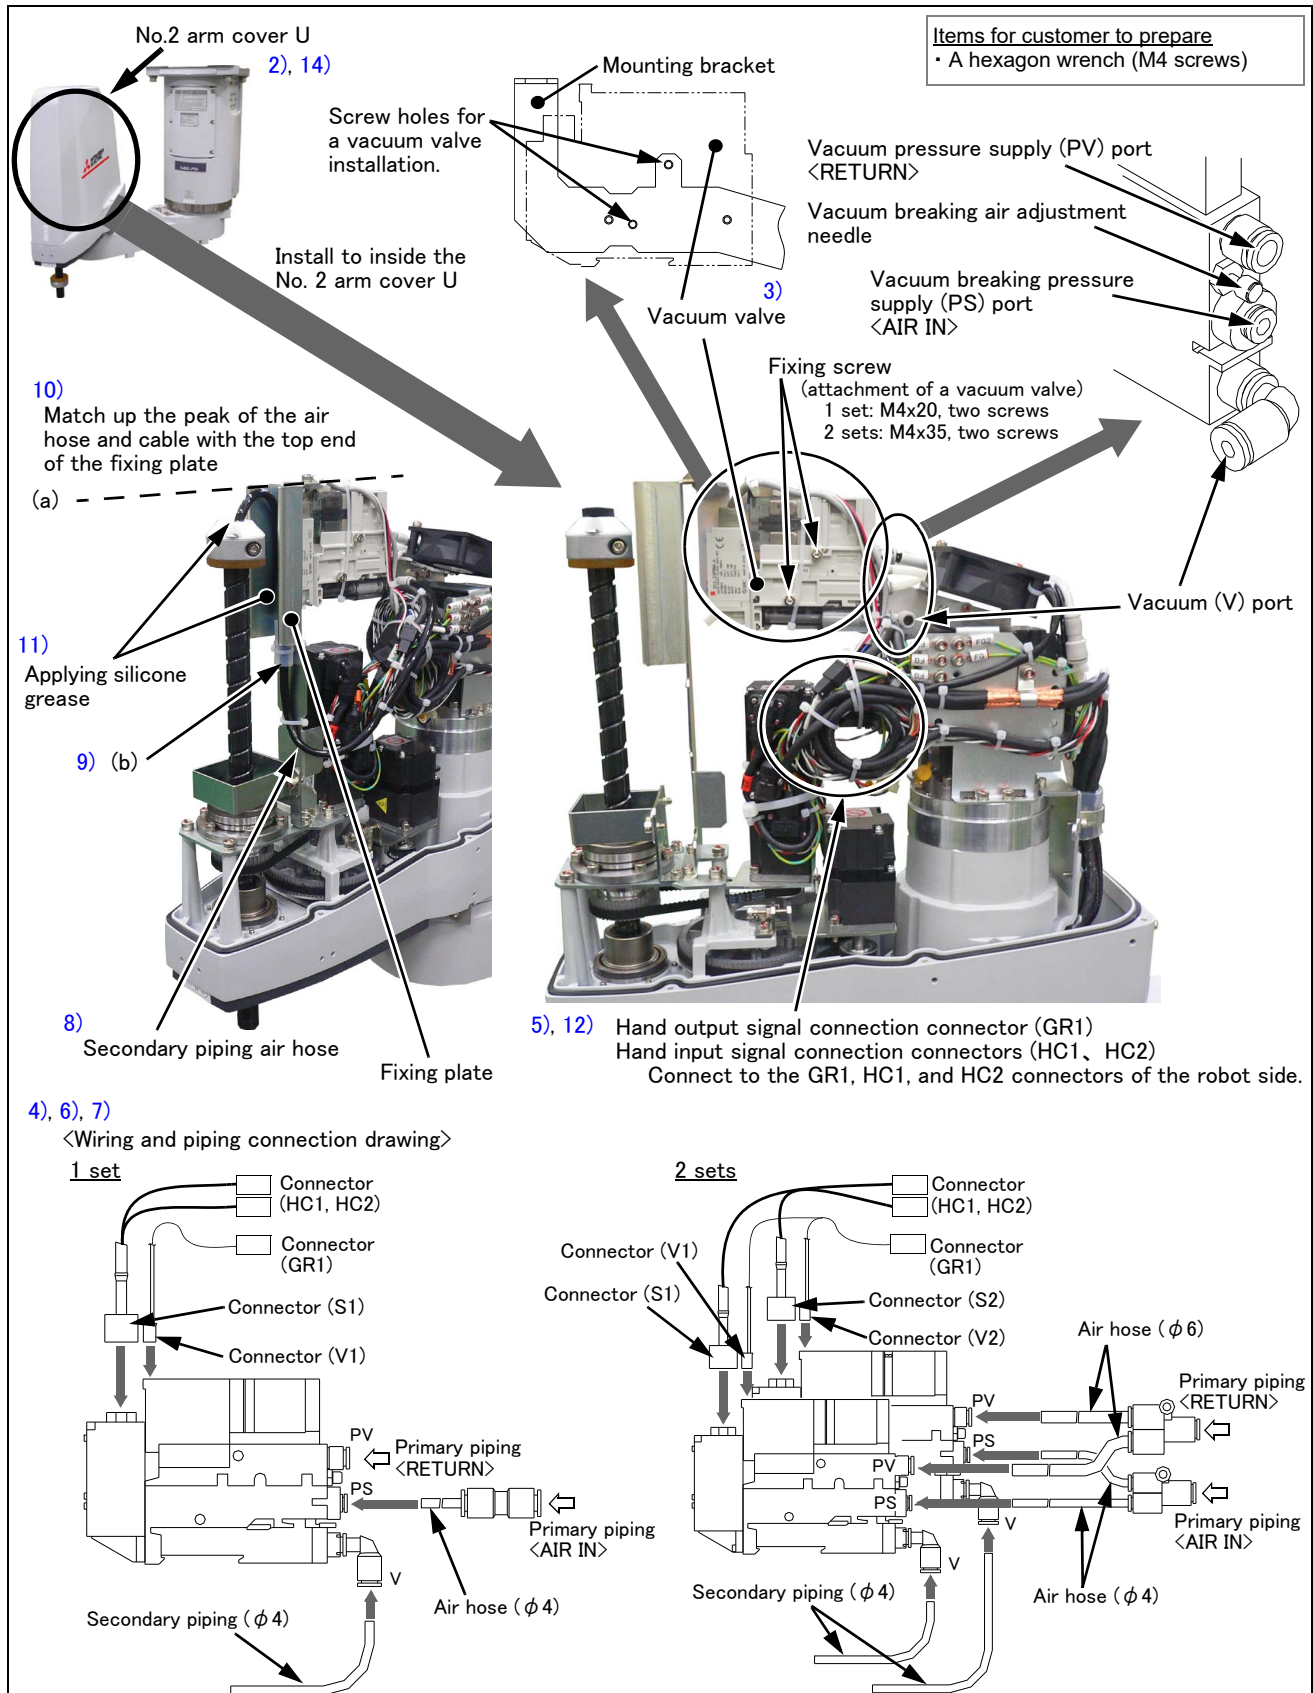

Fig.3-8 : Vacuum valve installation procedures
- 3) Fix the vacuum valve to the mounting bracket in the position indicated in Fig. 3-8. Place it so that the vacuum valve's primary piping connection joints (PV, PS, V ports) are located on the right hand side, and fix it securely using the attachment M4 screws (tightening torque: 1.39 to 1.89N · m).
- 9) The silicon rubber is supplied together with the vacuum valve to prevent bending the air hose. Wrap a secondary piping air hose in the silicon rubber and fix them with supplied cable tie at (b) portion shown in Fig. 3-8.